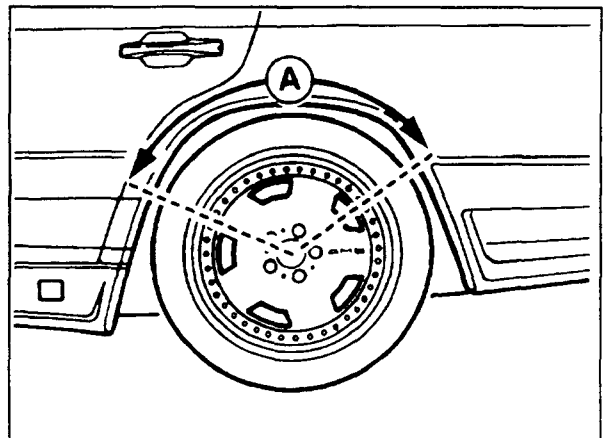

Figure 28
12. The inside edge of the rear fenders must be rebent to an angle of 110° over the complete wheel cutout (A, Figure 28) to accommodate the wider wheels and tires.
15. The fender lip is reworked over the entire area (A, Figure 28) in several stages. A plastic hammer must be used to avoid damaging the paint.